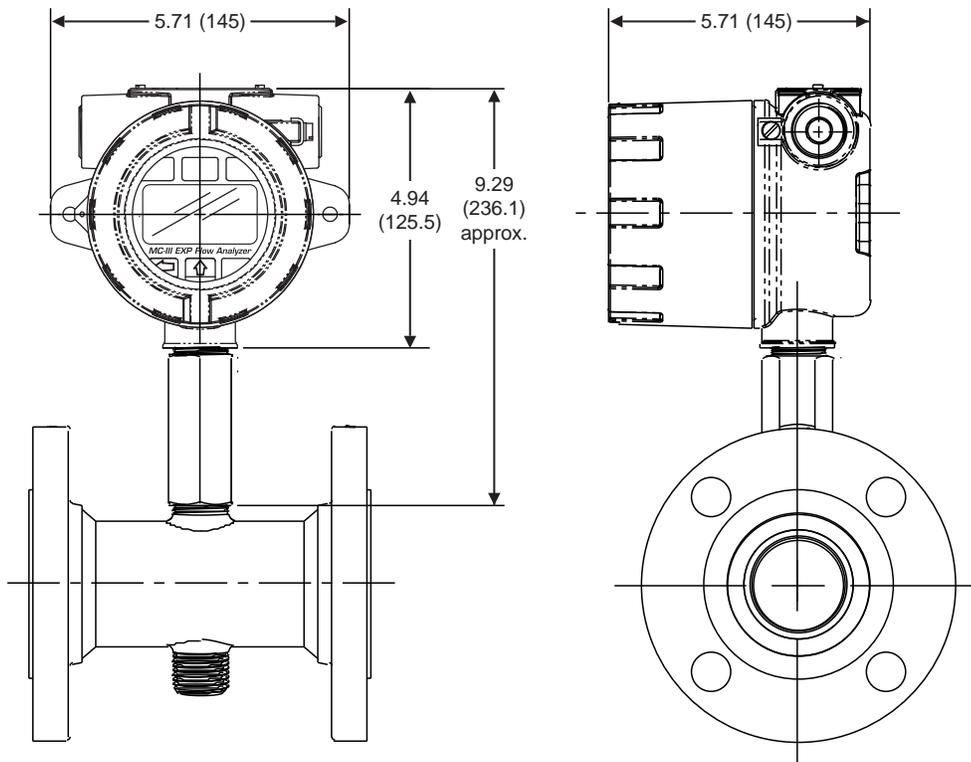

Figure 2.3—Direct mount to a Barton 7000 series flowmeter with 3/4-in. to 3/4-in. standoff tube (ATEX)
- Mount the device to a Barton 7000 Series turbine meter. A 3/4-in. to 3/4-in. stainless steel standoff tube is required (Figure 2.3, page 15). (The 3/4-in. to 1-in. reducer supplied with the Barton 7000 Series meter is not required when the standoff tube is used.)